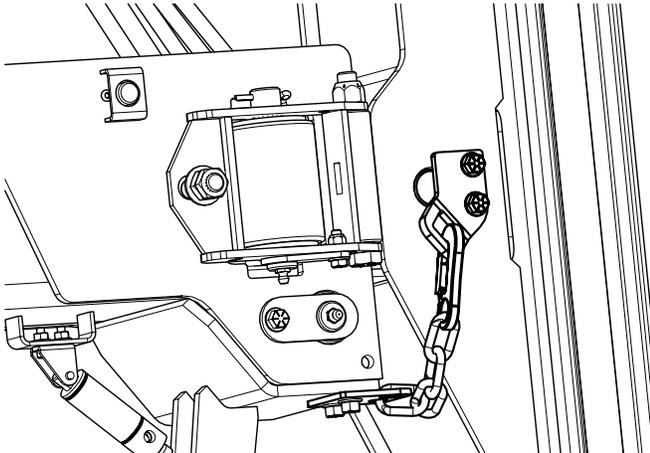

Figure 7: When in transit, make sure the chain is hooked onto the arm retainer plate.
2. Clip the chain's clip end onto the retainer plate that is on the mast. See Figure 7.